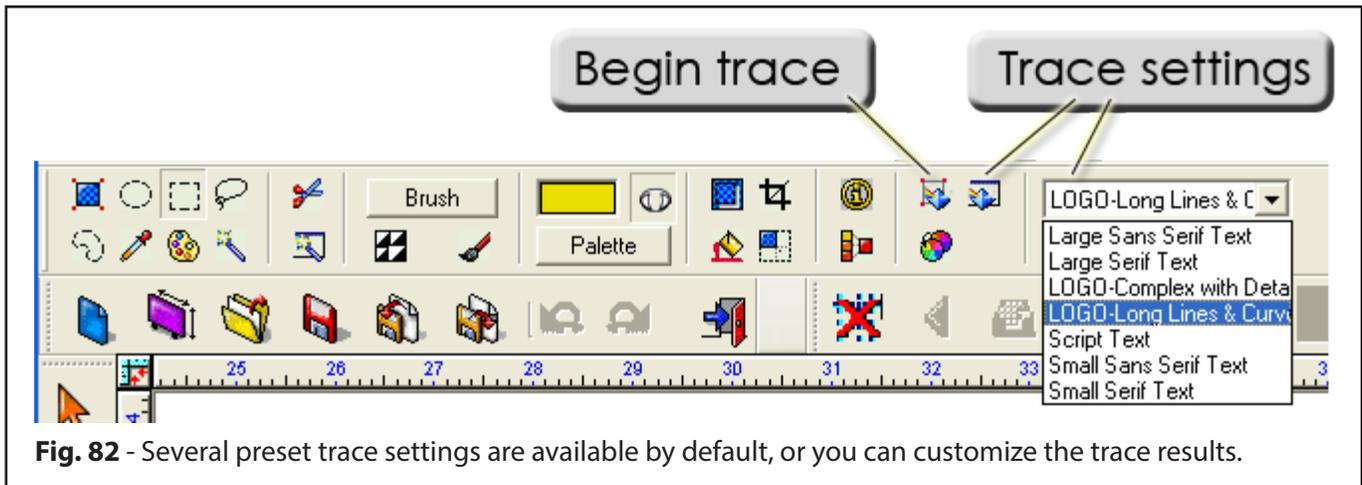

Fig. 82 - Several preset trace settings are available by default, or you can customize the trace results.
22. Double-click the image to access AccuScan editing mode (Fig. 82).